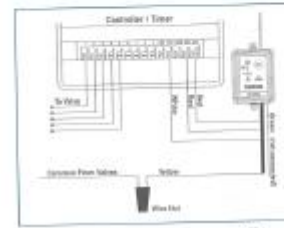

Figure 4: Wiring sprinkler timer without sensor terminals with booster pump
3. Disconnect the common valve wire from the timer, and attach it (using a wire nut) to the yellow (normal closed) wire from the rain/freeze receiver. (See Figure 4)
5. Connect the (2) red "24V" wires to the 24V terminals of the timer.